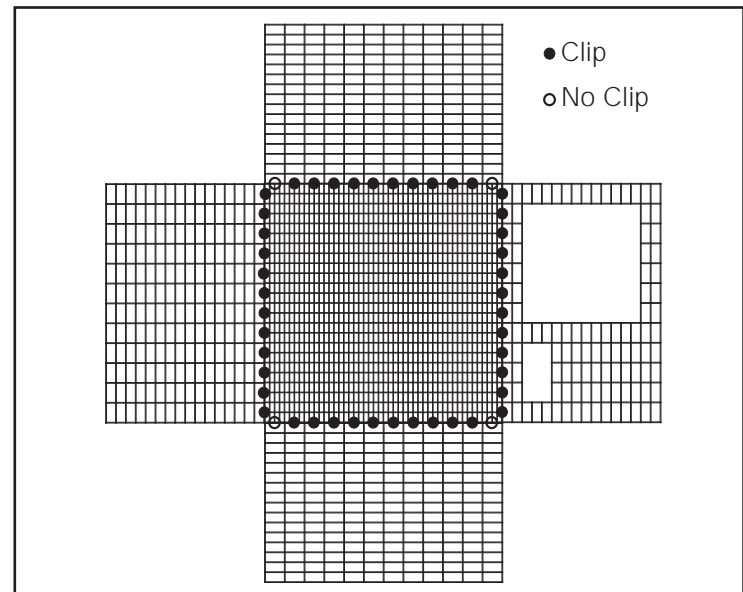

Figure 3
2. Lay out the hutch panels as shown in Figure 3. Use the illustration that matches your model hutch. You can put the door on the right or left side of the front of the hutch.